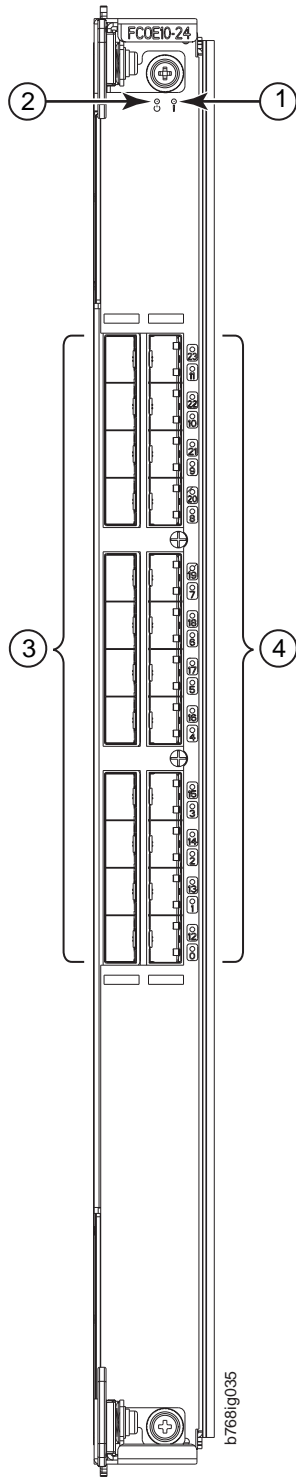

Figure 49. FCOE10-24 blade
- Figure 49 on page 140 shows the FCOE10-24 Fibre Channel over Ethernet blade with port numbering (not in a chassis)